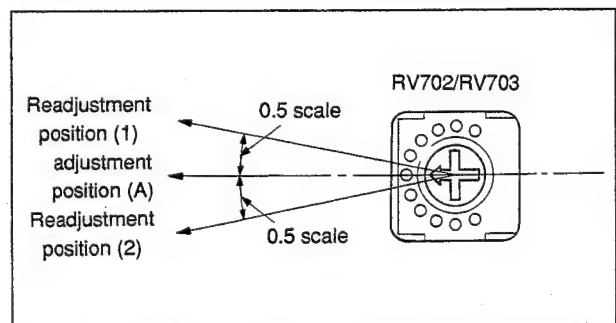

Fig. 6-9-6 Adjustment range for RV702 and RV703
18. Turn the potentiometer to 1/2 of the scale to clockwise direction against the adjustment position (A) where the specification was not met, and perform step 10 thru. step 15 for MP tape or steps 16 and 17 for ME tape. Confirm the specification is met. (See Fig. 6-9-6.)
19. When the specification is not met by one time readjustment, compare the PCM RF wave shape level at the adjustment position (A) (See Fig. 6-9-6) with the PCM RF wave shape level of the video inserted portion that the first readjustment was done. When the PCM RF wave shape for the first readjustment is larger than that for the adjustment position (A), turn the potentiometer once more to 1/2 of the scale to clockwise direction. When the PCM RF wave shape for the first readjustment is smaller than for the adjustment position (A), turn the potentiometer at the readjustment position (2) as shown in Fig. 6-9-6.